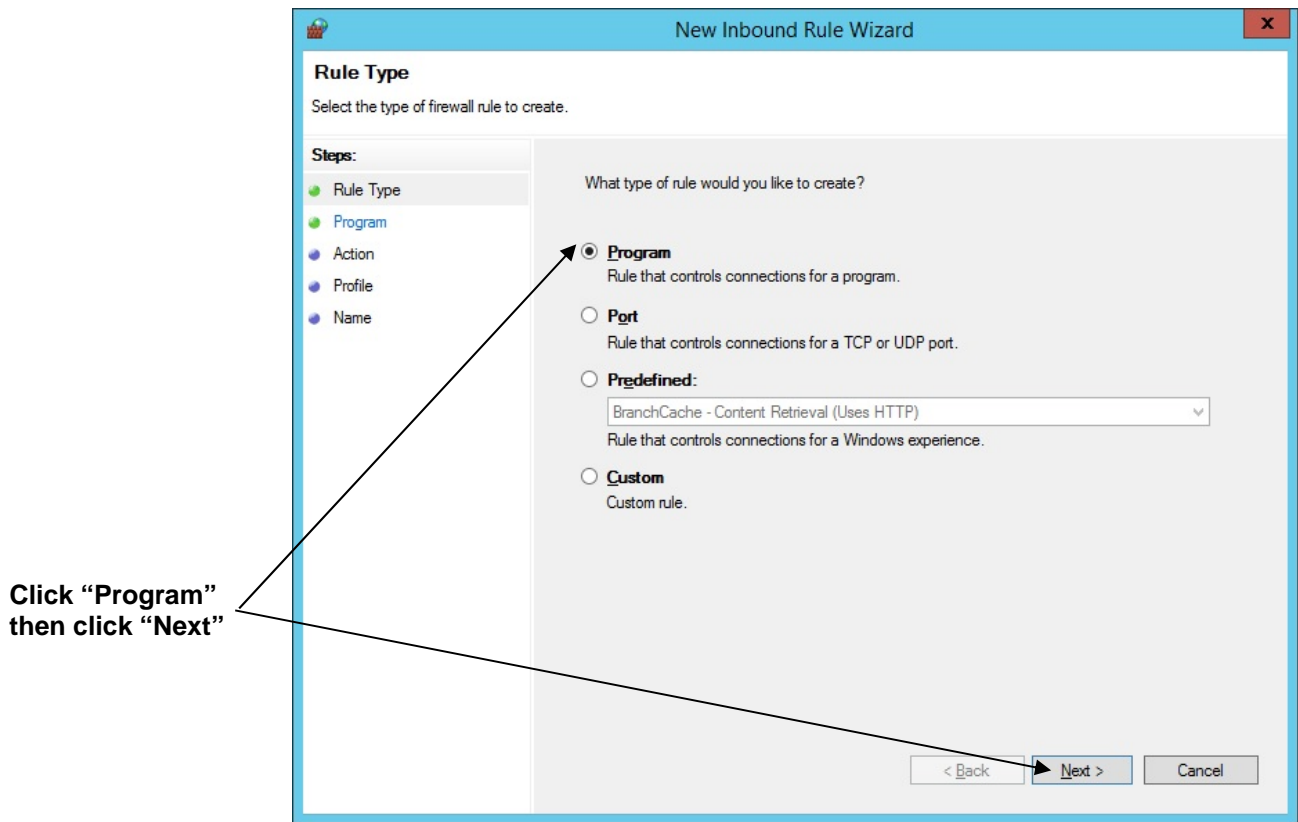

Figure 2-80. New Inbound Rule Wizard – Rule Type page
9. Start defining a new rule following the procedure discussed in *Section 2.9.3* except when you get to the Rule Type page (see *Figure 2-80*) choose **Port** *instead of* “Program.”